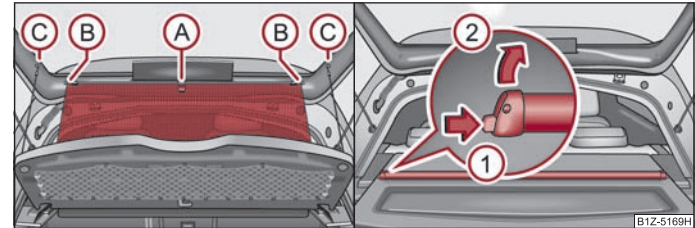

Fig. 49 Unroll/remove the sun screen
- Pull the sun screen at the loop (A) and hang it in the brackets (B) ⇒ fig. 49.